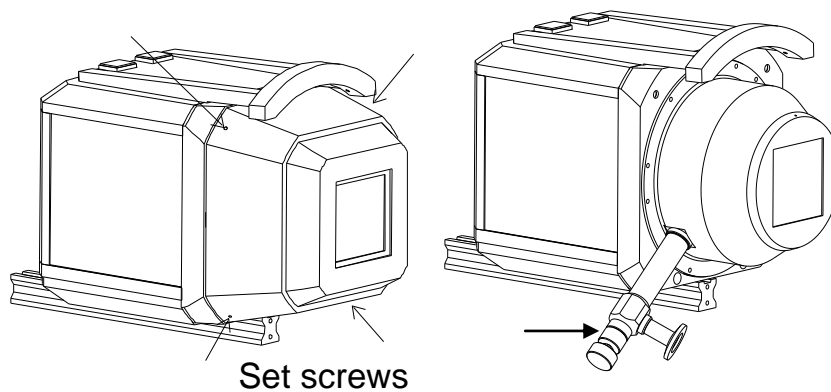
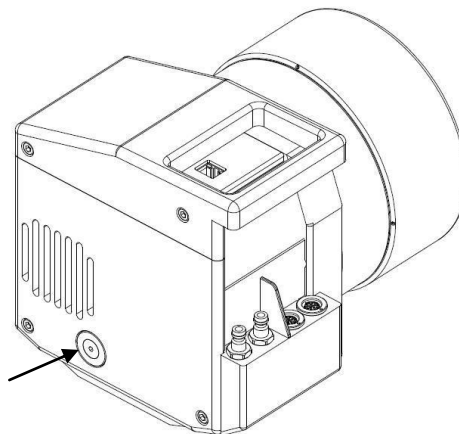

Figure 17 View of the pump out port of the Eos CCD detector
Figure 18 View of the pump out port cover on the AtlasS2 detector
3. Unscrew cover from pump-out port (see Figure 12 below). For the Eos detector this is underneath the collision protection cover which is removed by loosening four screws (as shown in Figure 17 below). On the S2 detector range the pump-out port is accessed from the rear end of the detector by removing a circular cover (as shown in Figure 18 below) by inserting the appropriate hexagon key and rotating anticlockwise until the cover becomes loose and drops out.